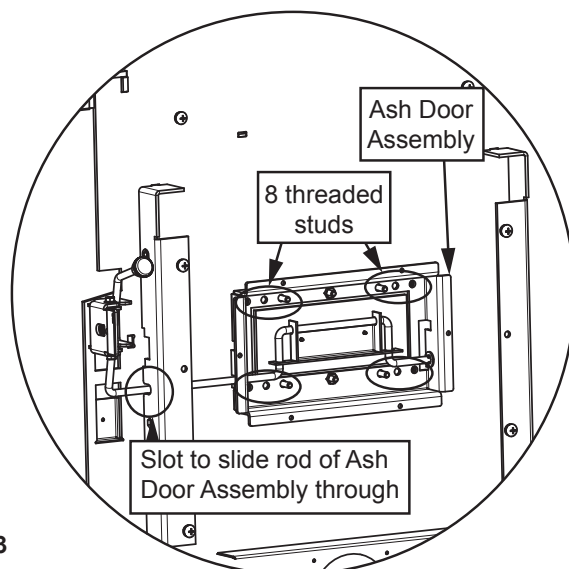

Figure 18.3
7. Install ash door assembly by sliding the rod at an angle into the slot on the left side (**Figure 18.3**).
8. Slide the ash door over the 8 screws protruding from the bottom of the appliance. Secure with nuts and washers using 7/16 socket wrench (**Figure 18.3**).
7. Install ash door assembly by sliding the rod at an angle into the slot on the left side (**Figure 18.3 on page 18**).
8. Slide the ash door over the 8 screws protruding from the bottom of the appliance. Secure with nuts and washers using 7/16 socket wrench (**Figure 18.3 on page 18**).